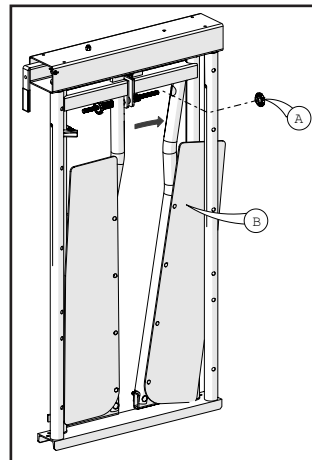

Figure 7: Removing a stuck animal
4. To fully open a door on the headgate, remove the aluminum adjustment knob (a) from the top of the door and rotate the door insert (b) towards the outside of the headgate as shown (Figure 7).